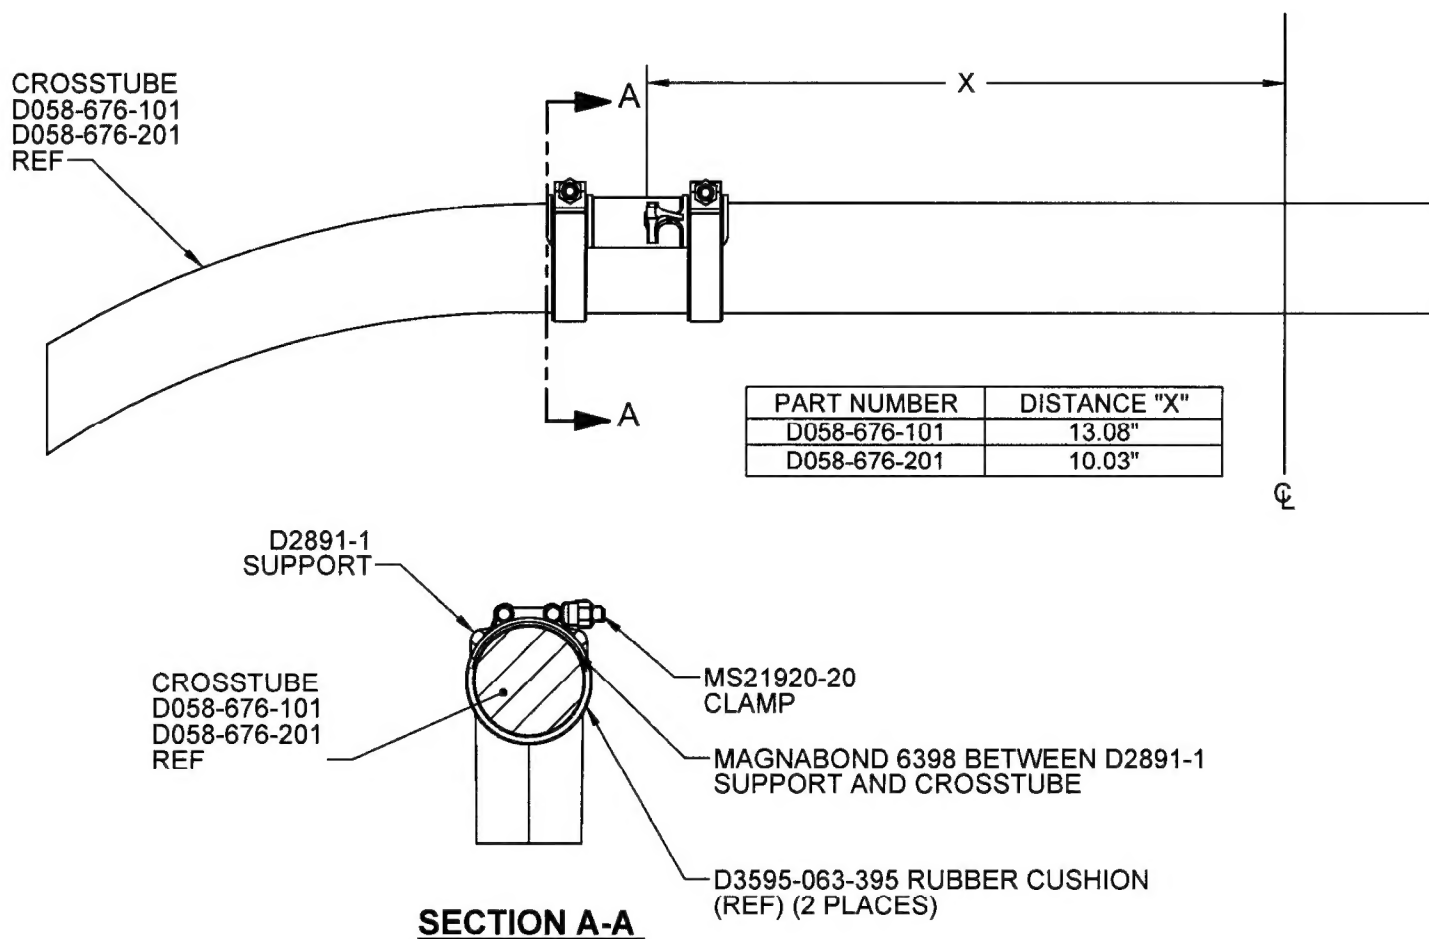

FIGURE 1 - CROSSTUBE SUPPORT
- 2) Remove the qty (2) MS21920-20 clamps from the crosstube that fasten each D2891-1 support to the crosstube.
- 4) Inspect the crosstube surface underneath each support for corrosion and mechanical damage per items 5.3.1 and 5.3.2 of the 300 hour inspection of ICA-D058-676. Repair damage within acceptable limits per item 5.3.3 of the 300 hour inspection in ICA-D058-676. Touch up finish per item 5.3.9 of the 300 hour inspection.
- 6) Apply a 0.03" to 0.06" thick layer of Magnabond 6398 underneath each D2891-1 support and re-install the support on the crosstube as shown in Figure 1. Position and secure the D2891-1 supports on the crosstube using MS21920-20 Clamps. Install a D3595-063-395 Rubber cushion underneath each MS21920-20 Clamp. Torque clamps 80-100 in-lb. Let the D058-676-101/-201 crosstube assembly cure as per the Magnabond 6398 instructions before re-installing the crosstube on the aircraft.